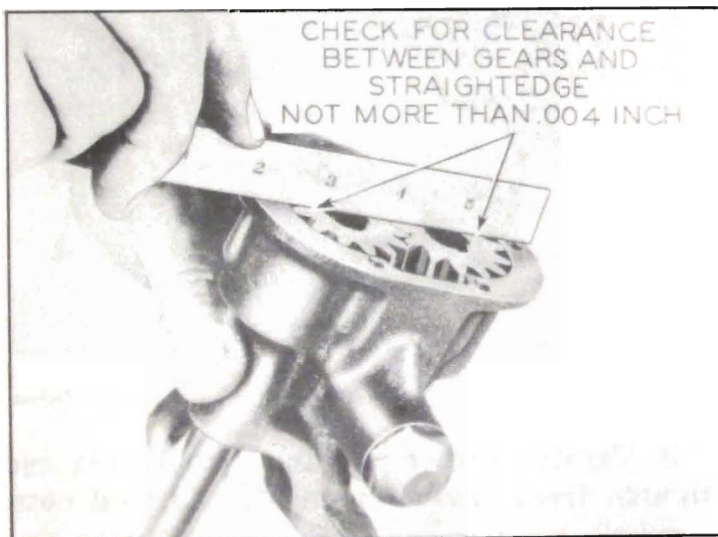

Figure 2-45—Checking Clearance of Gears at Cover
5. Check for clearance between gears and cover by using a steel straight edge as shown in figure 2-45. The clearance between straight edge and gears should be such that the gears turn freely and must not be more than .004".